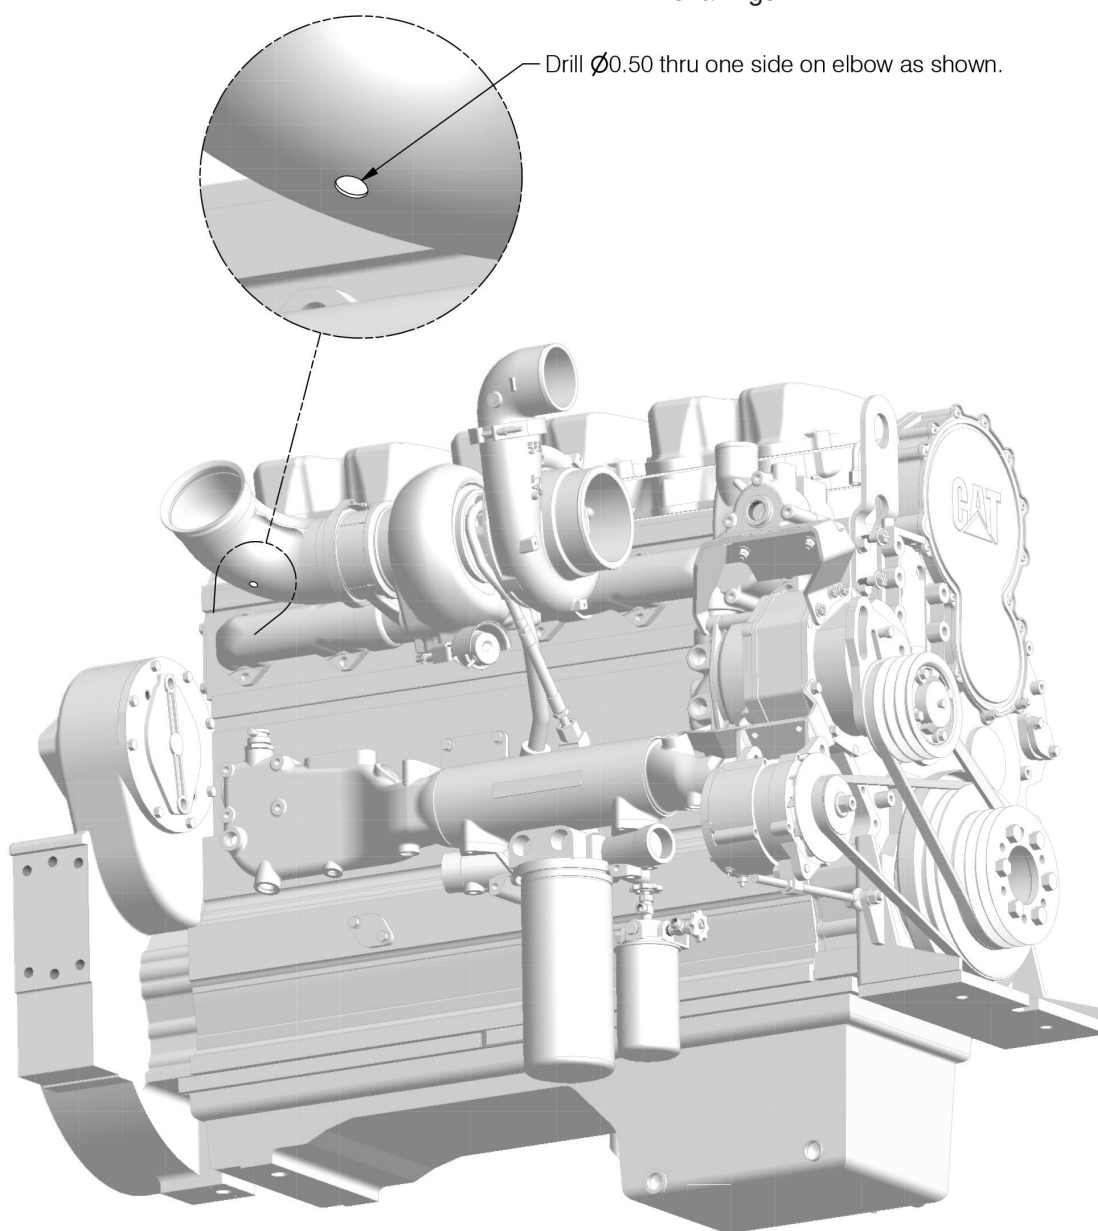

Figure 2 Drill hole as shown. Note: Tier III CAT engine shown...your installation may vary.
Step 1. Locate the exhaust elbow on the turbo. See **Figure 2**. Drill 0.50 diameter hole through one wall in the location shown. Remove all metal shavings.